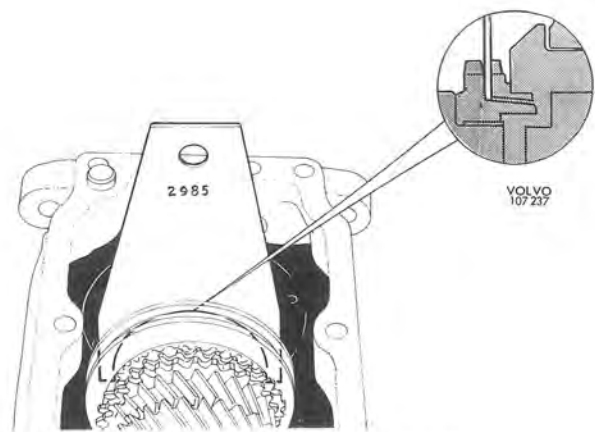
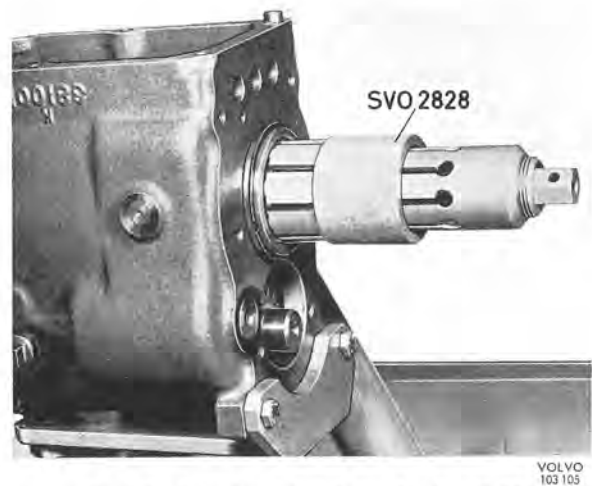
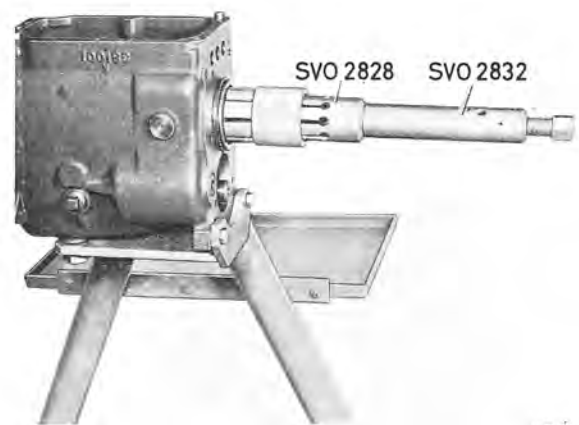

Fig. 4-18. Counterhold for mainshaft
Fig. 4-19. Removing mainshaft rear bearing, M 400
Fig. 4-20. Removing mainshaft rear bearing, M 410
5. Place counterhold 2985 between the input shaft and the front synchronizing, see Fig. 4-18. Pull off the mainshaft rear bearing with puller 2828, see Fig. 4-19. For M 410, remove the bolt in 2828 and replace with tool 2832. Thereafter pull off the rear bearing in the same way as for M 400, see Fig. 4-20.